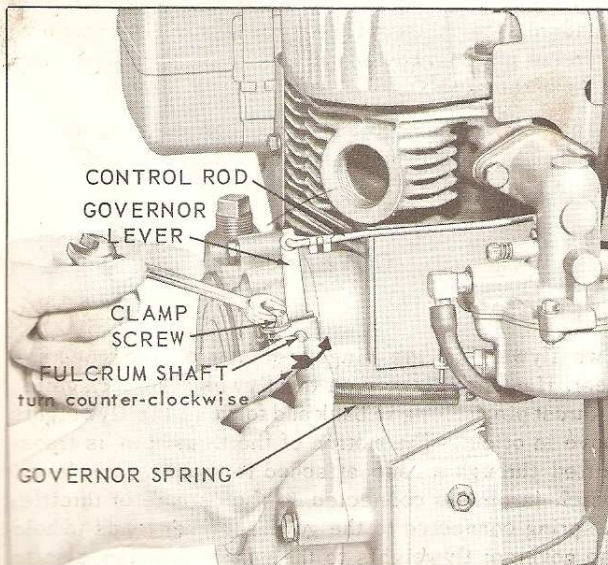

Fig. 44
5. Tighten *clamp screw* as illustrated in *Fig. 44*, and mount *idle return spring* from breather tube to governor lever as shown in *Fig. 45*.